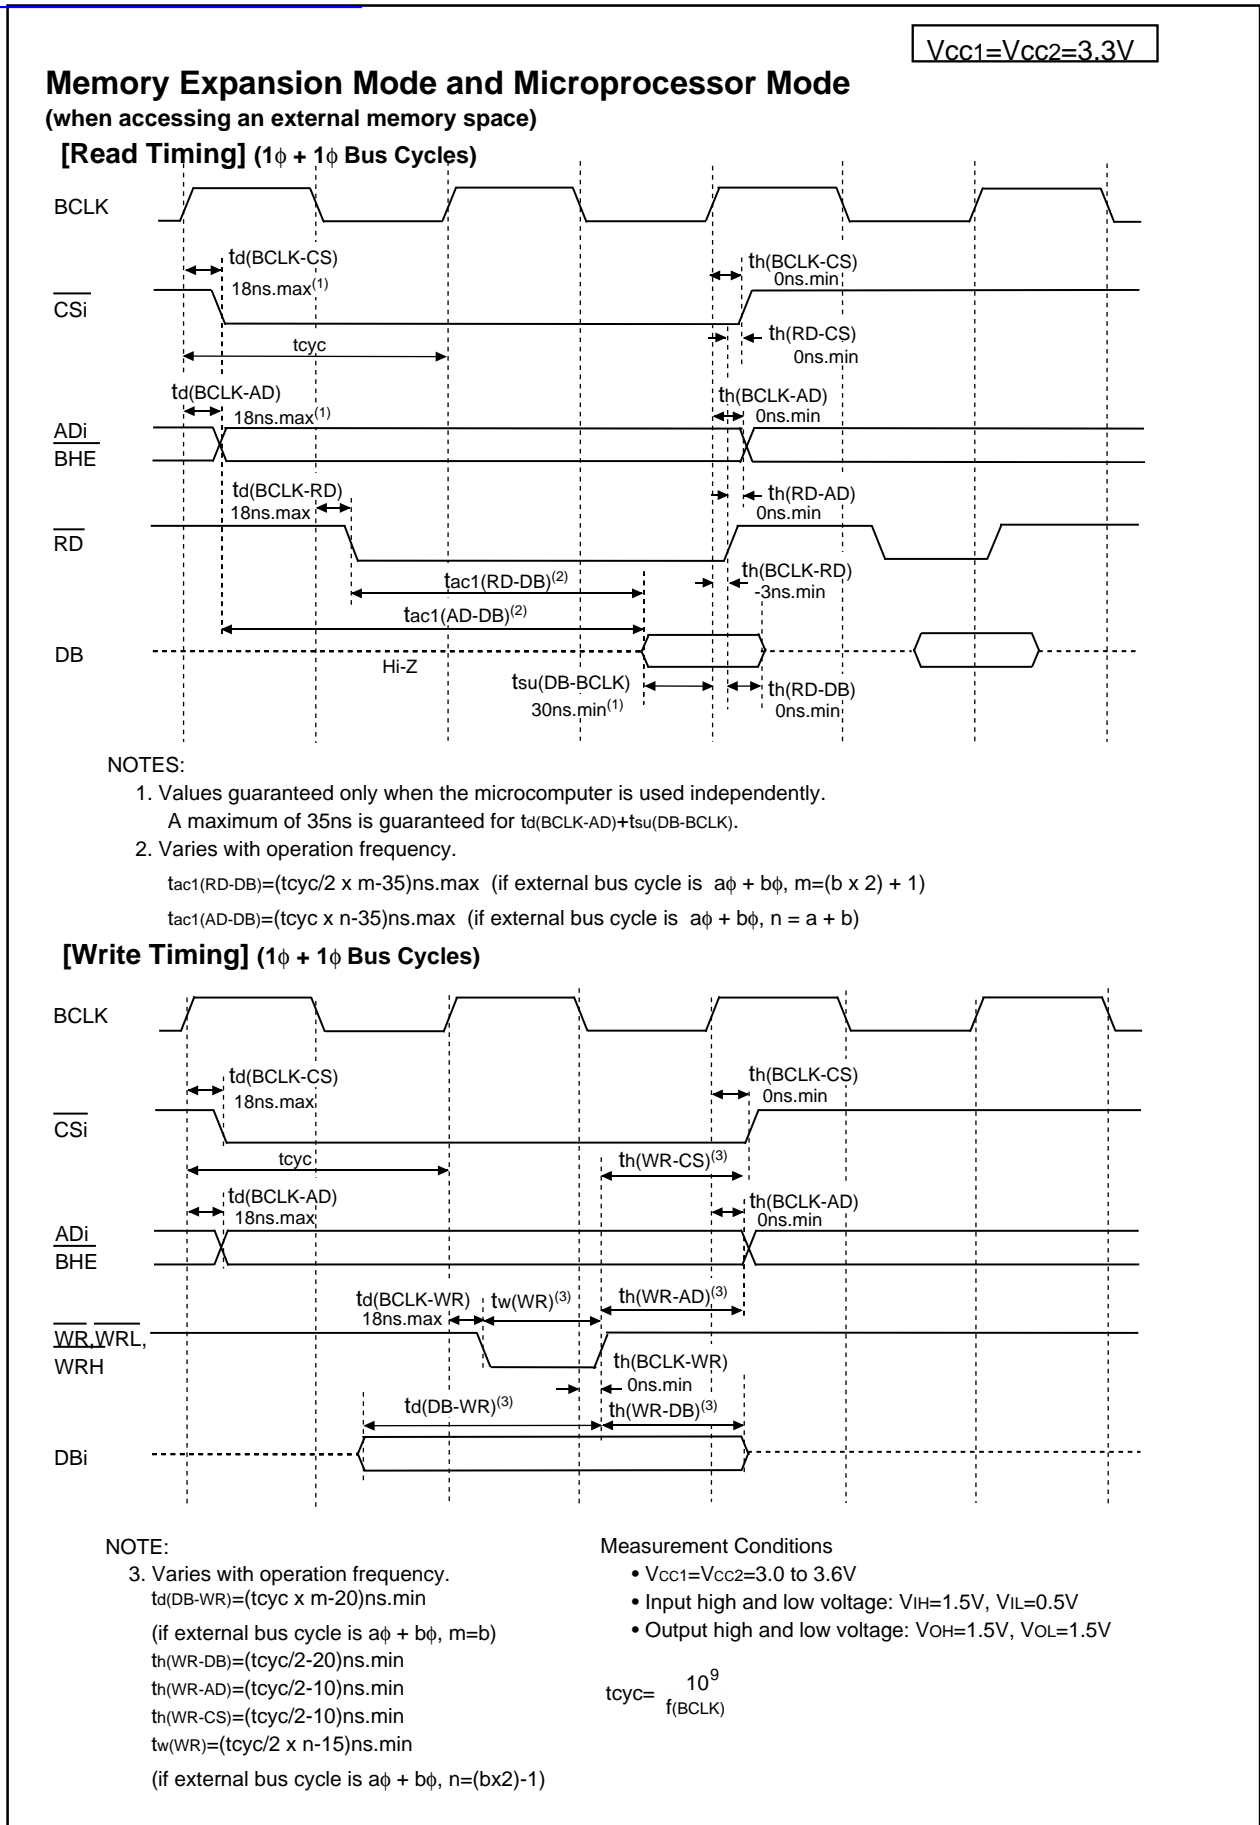

Figure 5.6 $V_{CC1}=V_{CC2}=3.3V$ Timing Diagram (1)
52	<ul style="list-style-type: none"> • Figure 5.6 Vcc1=Vcc2=3.3V Timing Diagram (1) Expression for tcyc added; note 3 corrected